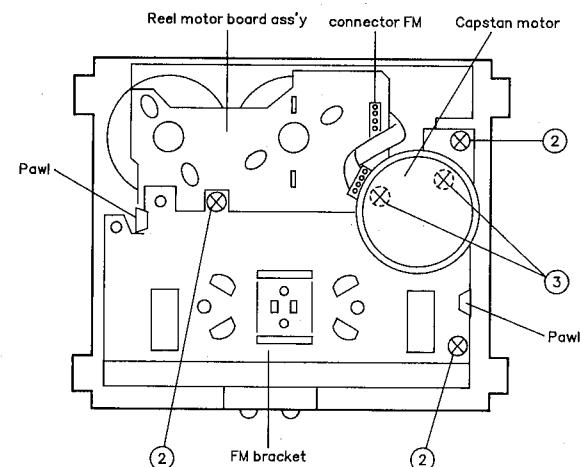

Fig. 2 – 12
4. For reengaging the capstan belt, refer to Fig. 2 – 13.
### ◆ Flywheel ass'y (Fig. 2 – 14)